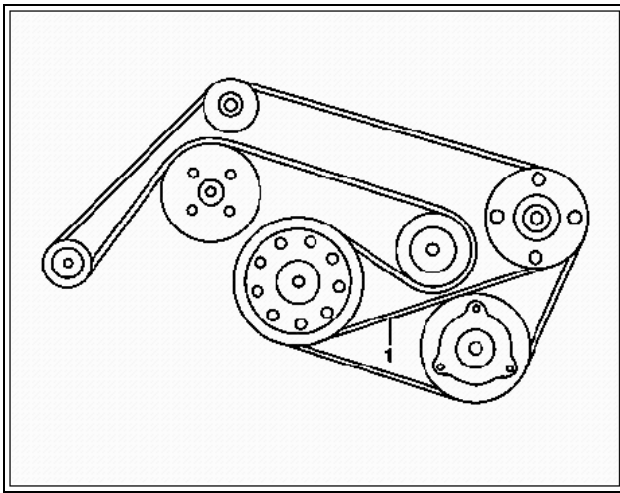

Figure 1 P-B-83.55/87
6. Install shorter belt to bypass the compressor. Route belt as shown in Figure 1.